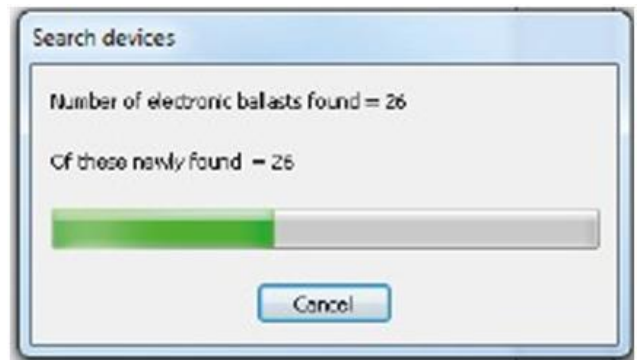

Figure 65: Example of search progress during a DALI operating device search
- Click the "Search for devices" button in the commissioning environment. The DALI Gateway searches for available DALI operating devices. In so doing, the Gateway scans the DALI cable in stages and identifies the connected devices successively. Depending on the number of connected electronic ballasts, the search operation may take some time. During the search operation, the plug-in displays the progress of the search.(Figure 65).